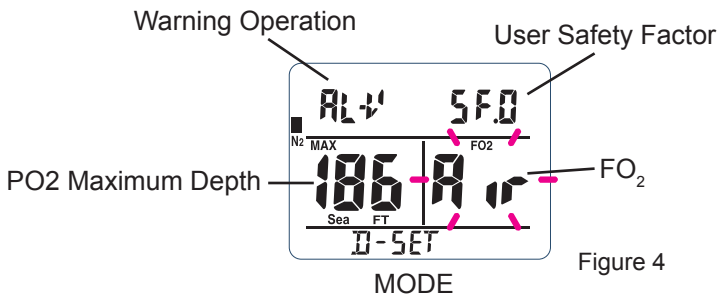

Figure 4
Use the dive set mode to set the oxygen concentration (FO_2), user safety function (SF), warning alarm sound or vibration (AL-S/AL-V), and seawater or freshwater (Sea/Fresh) settings. (Fig. 4)